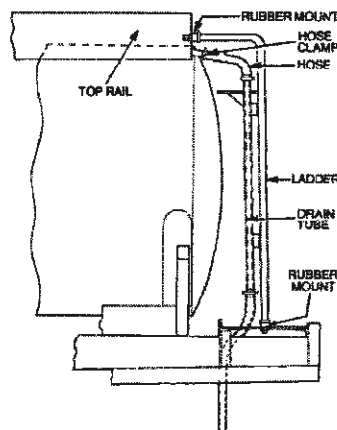

Figure 56 Ladder and Drain Assembly
- a. Slacken the two hose clamps securing the hoses to the top rail drain tubes (Figure 56).